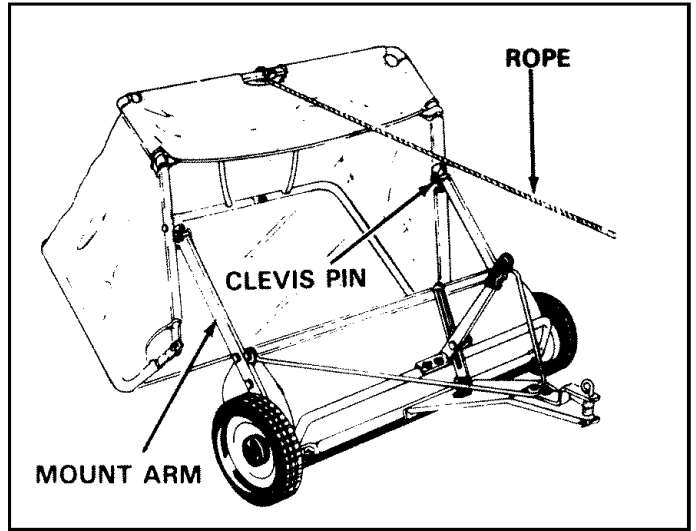

FIGURE 18
- To assemble the hopper bag to the sweeper, pivot the bag retainers up and hook the clevis pins into the notches in the mount arms. Pivot the bag retainers down to lock the hopper bag onto the mount arms. See figure 18.